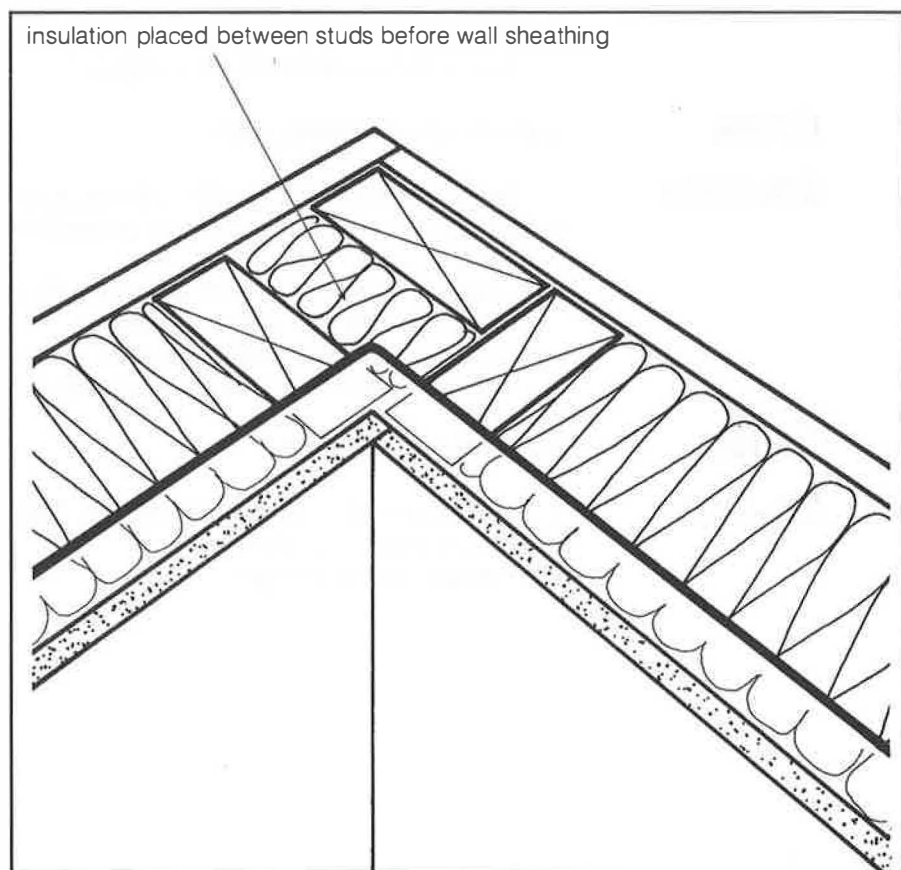

Fig. 12. Insulated stud gutter
- Raise the surface temperature of the drywall by providing better insulation in corners and where ceiling framing members or trusses rest on outside walls. This can be done by insulating the stud "gutter" at outside corners during framing (*fig. 12*), or by using two-stud framing with drywall clips,